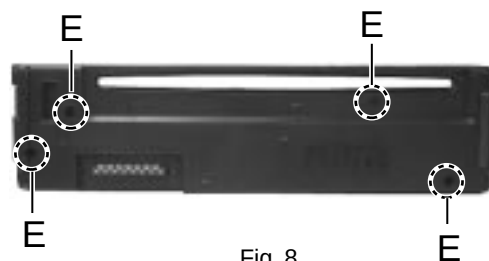

Fig. 8
■ Removing the control switch board (See Fig.8 and 9)